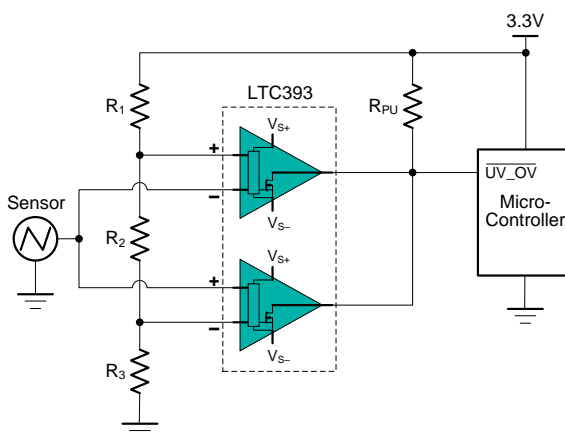

Figure 6. Window Comparator
Window comparators are commonly used to detect undervoltage (UV) and overvoltage (OV) conditions. Figure 6 shows a simple window comparator circuit.
Configure the circuit as shown in Figure 6. Connect V_{S+} to a 3.3-V power supply and V_{S-} to ground. Make R_1 , R_2 and R_3 each 10-M Ω resistors. These three resistors are used to create the positive and negative threshold voltages for the window comparator (V_{TH+} and V_{TH-}). With each resistor being equal, V_{TH+} is 2.2 V and V_{TH-}